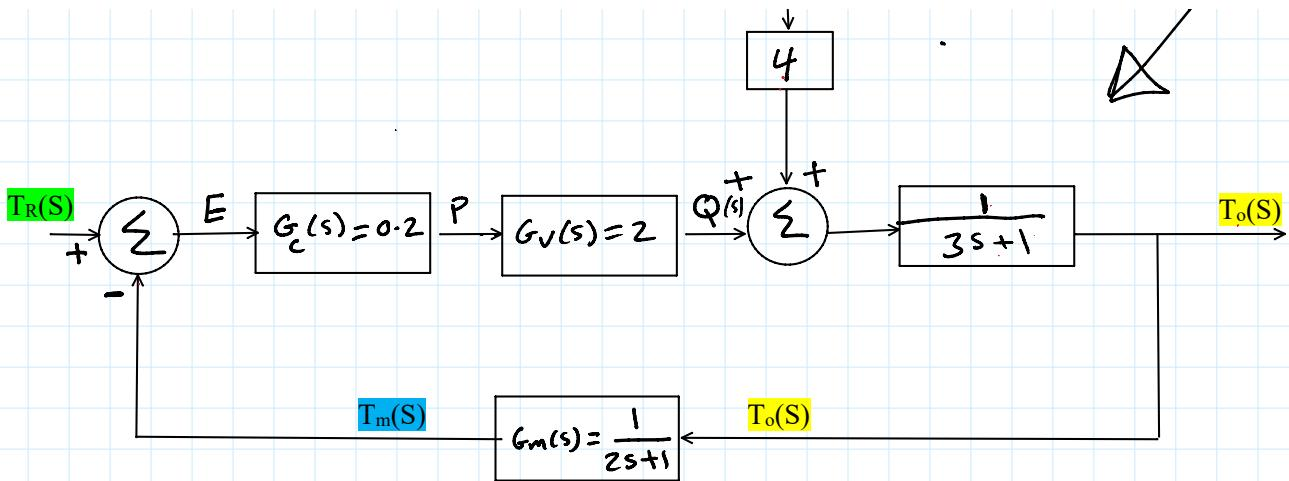

Figure 2
3. If $G_m(s) = 1$, the the block diagram of figure 1 can expressed as shown in figure 2.